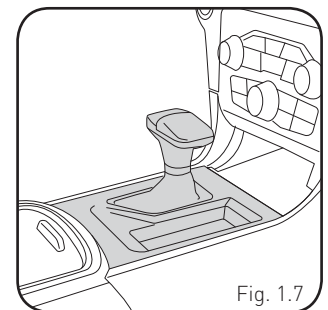

Fig. 1.7
8. Remove the shifter assembly. (Fig. 1.7)